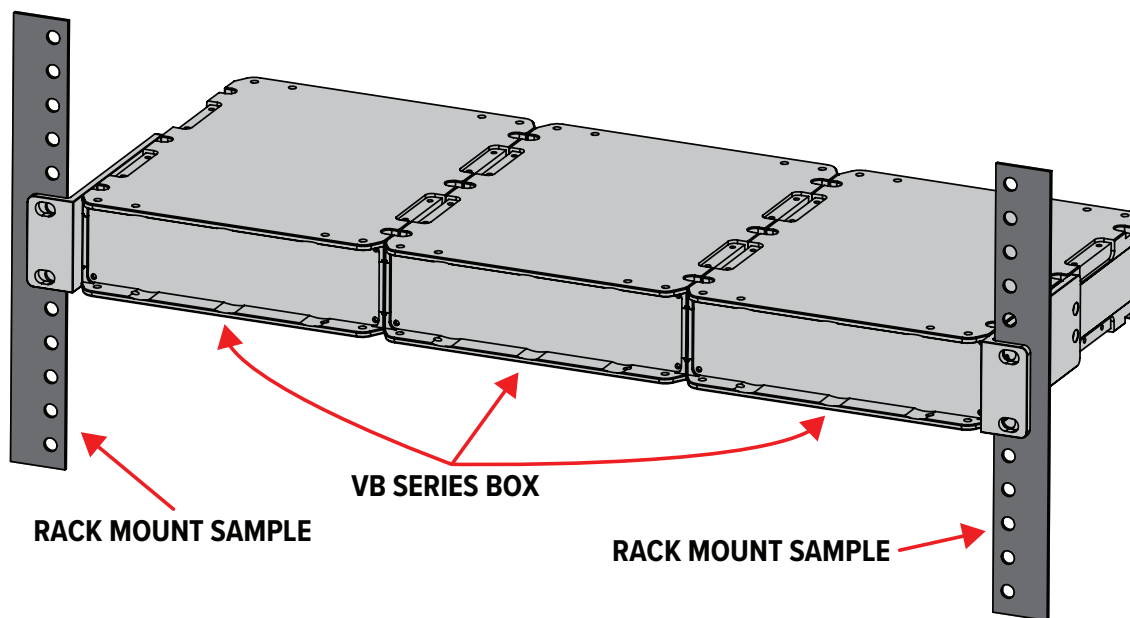

Figure 20. Three VB Box Horizontal Rack Mounting.
1. Place the VB Boxes on a clean flat surface, see Figure 20. At the rack where the VB Boxes are to be located make sure all wiring and loose equipment has been cleared away to avoid any obstructions. Make sure the front and rear portions of the rack are clear so that the wiring can be routed to the individual VB Boxes.